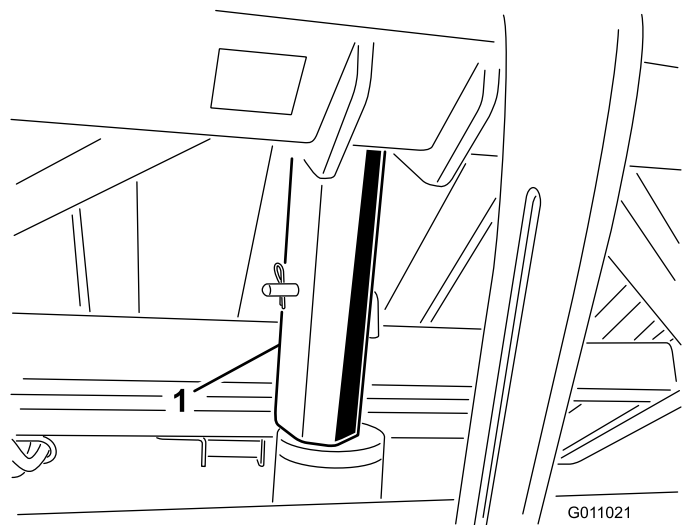

Figure 26
3. Insert the hopper-safety support onto the cylinder rod, making sure the support end rests against the cylinder barrel and the cylinder rod end (Figure 26).